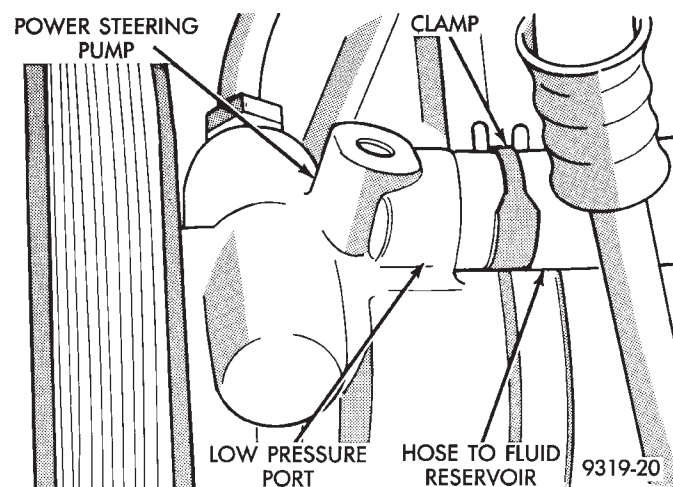

Fig. 17 Power Steering Fluid Supply Hose
(6) Remove the hose clamp from the power steering fluid supply hose, at the power steering pump (Fig. 17). Then remove the hose from the power steering pump.
(3) Install hose from remote power steering fluid reservoir, on low pressure port of power steering pump (Fig. 17).
(4) Install the drive belt on the power steering pump drive pulley.
(5) Lower the vehicle to the ground.